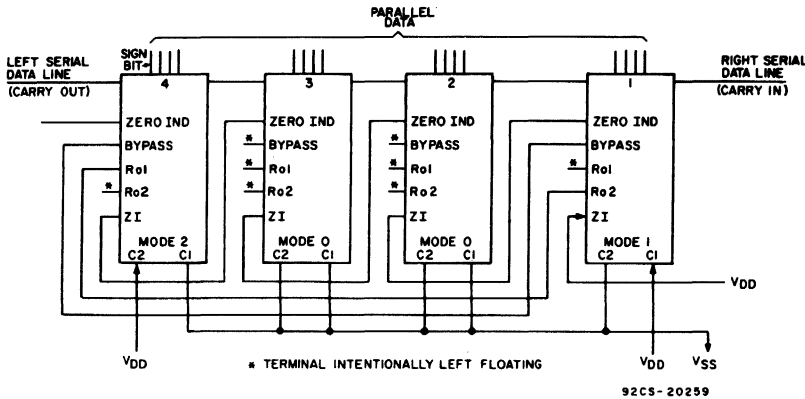

Fig. 11 — Connection for 16-bit arithmetic logic unit.
Data-flow interruptions are shown by shaded areas. With these three ALU's and the four available modes, 61 more system combinations can be formed. If 4 ALU's are used, 4⁴ combinations (256) are possible. Fig. 11 shows a diagram of 4 CD4057A's interconnected to form a 16-bit parallel processor.
The condition of "all zeros" is indicated by a "1" on the Zero Indicator terminal of the "Most Significant" CD4057A. As shown in Fig. 11, terminal Z1 of the CD4057A containing the least significant set of bits is connected to V_{DD}. Zero indication is independent of modes.